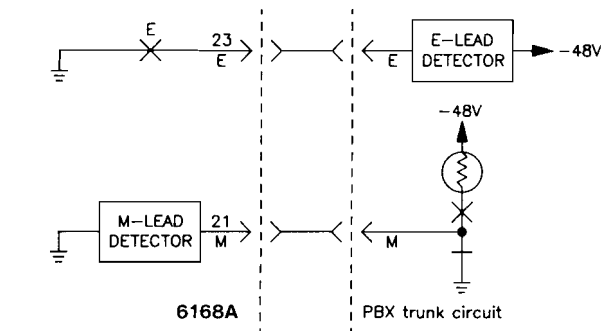

figure 8. Type I E&M interface (TC11M, TL11M, TC31M, or TL31M), A side
2.13 The 6048/A can be switch-optional to derive either a Type I (single-lead) or a Type II or III (looped-signaling-lead) E&M interface. The Type I and Type II interfaces can be used with either A-side or B-side E&M signaling (see paragraphs 2.14 through 2.18). The Type III interface can be used with A-side signaling only. Figures 8 through 12 show the connections required for Type I, II, and III E&M interfaces with A-side signaling and for Type I and II interfaces with B-side signaling.